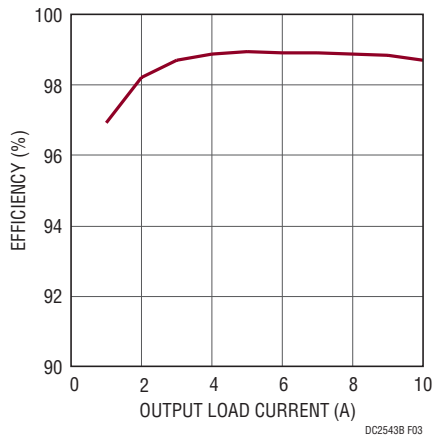
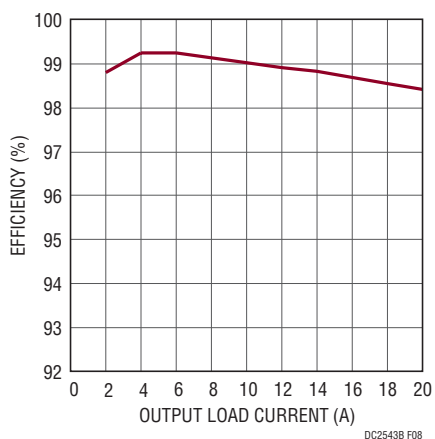
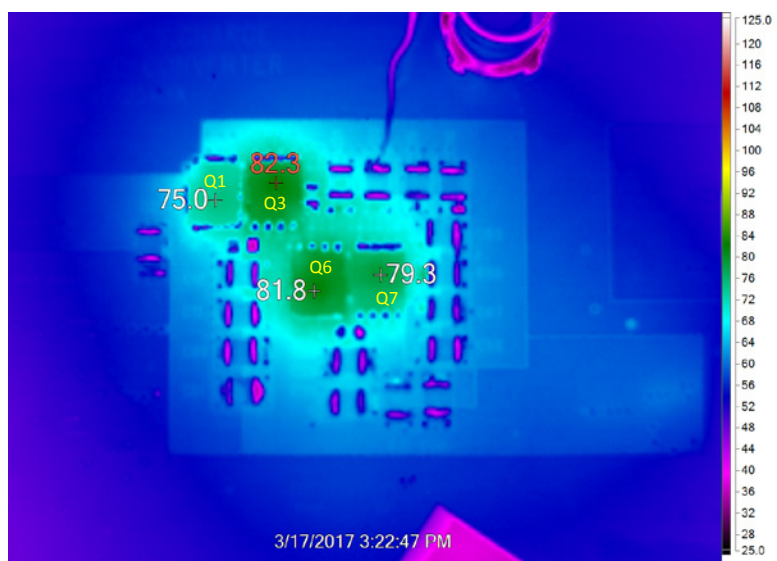

Figure 3. Efficiency vs Load Current at $V_{IN} = 48V$, $V_{OUT} = 24V$, $f_{SW} = 200kHz$
Figure 8. Efficiency vs Load Current at $V_{IN} = 48V$, $V_{OUT} = 24V$, $f_{SW} = 200kHz$ *
Figure 10. Thermal performance at $V_{IN} = 48V$, $V_{OUT} = 24V$, $I_{OUT} = 20A$, $T_A = 23^{\circ}C$, No Airflow *
Demonstration circuit 2543B is a high efficiency, high density, open loop charge pump (inductorless) DC/DC converter. This demo board is a voltage divider which achieves a 2:1 step-down ratio from an input voltage from 36V to 60V. The output voltage is a fixed ratio of half of the input voltage ($V_{IN}/2$) and can supply a 10A load current. This demo board has the option to deliver a 20A maximum load with the addition of 15 chip capacitors. See Figure 8 and Figure 10 for the details.
The DC2543B provides a very high efficiency solution of 98.7% when converting $48V_{IN}$ to $24V_{OUT}$ at 10A as shown in Figure 3. When configured for a 20A output, an efficiency of up to 98.4% is achievable for a $48V_{IN}$ to $24V_{OUT}$ at 20A as shown in Figure 8.
1. When measuring the output or input voltage ripple, do not use the long ground lead on the oscilloscope probe. See Figure 3 for the proper scope probe technique. Short, stiff leads need to be soldered to the (+) and (-) terminals of an output capacitor. The probe's ground ring needs to touch the (-) lead and the probe tip needs to touch the (+) lead.